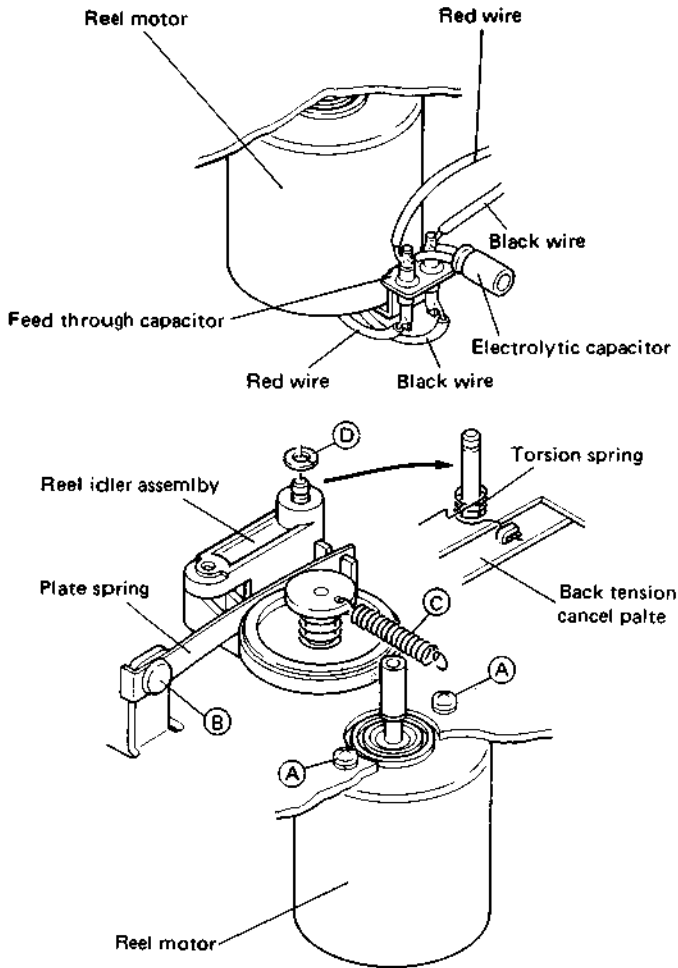

Fig. 4-12 Reel motor and reel idler replacement
1. Unsolder the wires from the feed through capacitor of the reel motor assembly from the bottom side as shown in Fig. 4-12.
2. Take out two screws (A) from the top side and replace the reel motor assembly from the bottom side.
3. After removing the reel motor assembly, take out the plastic rivet (B) and remove the plate spring.
4. After unhooking the spring (C) of the reel idler assembly, take off the slit washer (D) and replace the reel idler assembly.